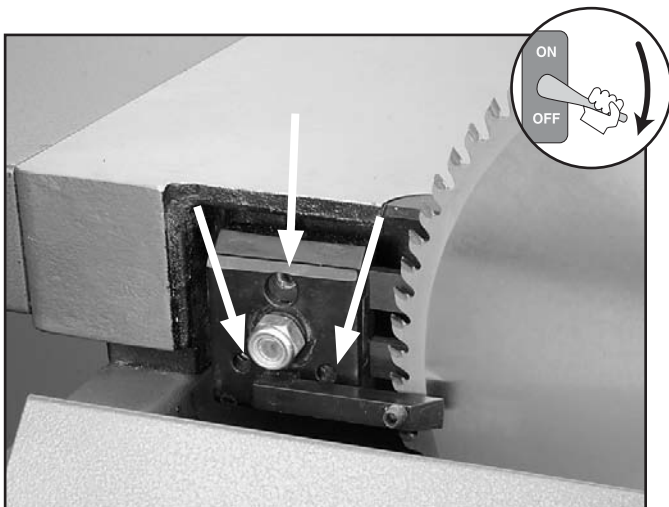

Figure 39. Set screws for adjusting riving knife.
- Use the set screws shown in **Figure 39** to adjust the riving knife bracket and re-install the riving knife.